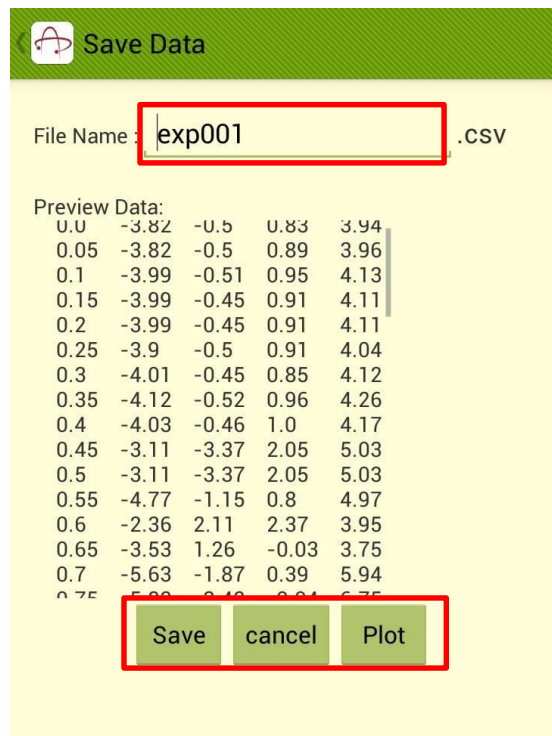

Fig 4.9
- In “Save Data” activity (Fig 4.9), you can preview the data log by scrolling the table. You can name the file and save the data into a .csv file.